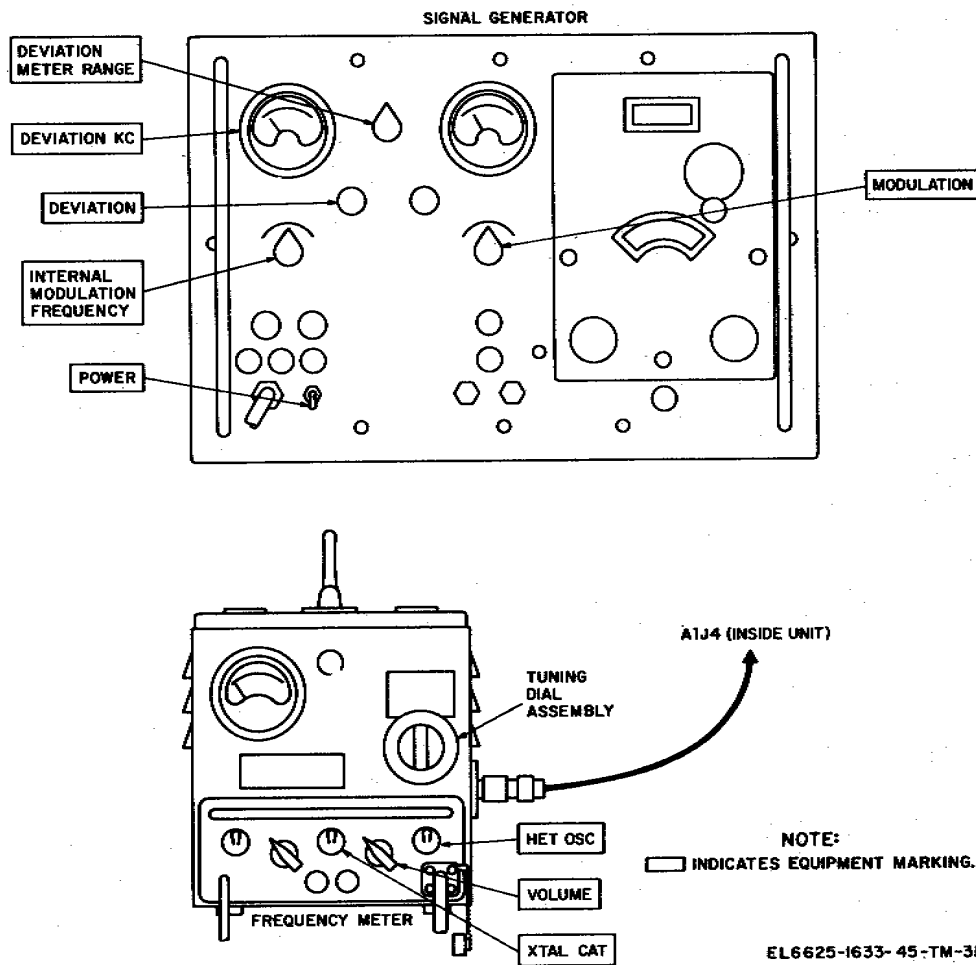

Figure 5-3. Internal modulation frequency accuracy, test setup diagram.
- a. Connect the equipment as shown in figure 5-3.